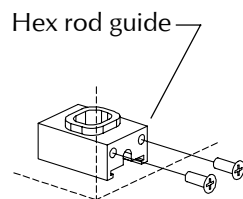

Figure 1-2
- 1.4. For hex bottom rod, install hex rod guide in door with #10-24 x 3/8" UFPHTC screws (Figure 1-2).